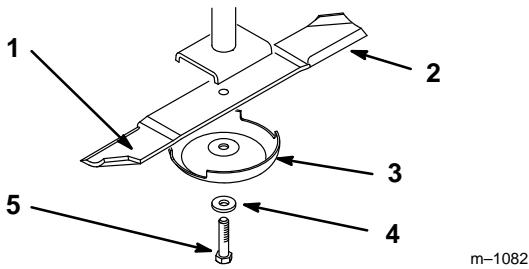
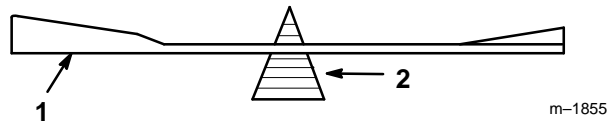

Figure 9
Figure 11
Hold the blade end using a rag or thickly-padded glove. Remove the blade bolt, lock washer, anti-scalp cup and blade from the spindle shaft (Fig. 9).
2. Check the balance of the blade by putting it on a blade balancer (Fig. 11). If the blade stays in a horizontal position, the blade is balanced and can be used. If the blade is not balanced, file some metal off the end of the sail area only (Fig. 9). Repeat this procedure until the blade is balanced.
1. Install the blade onto the spindle shaft (Fig. 9).
2. Install the anti-scalp cup, lock washer and blade bolt (Fig. 9). Torque the blade bolt to 85–110 ft-lb (115–150 N•m).